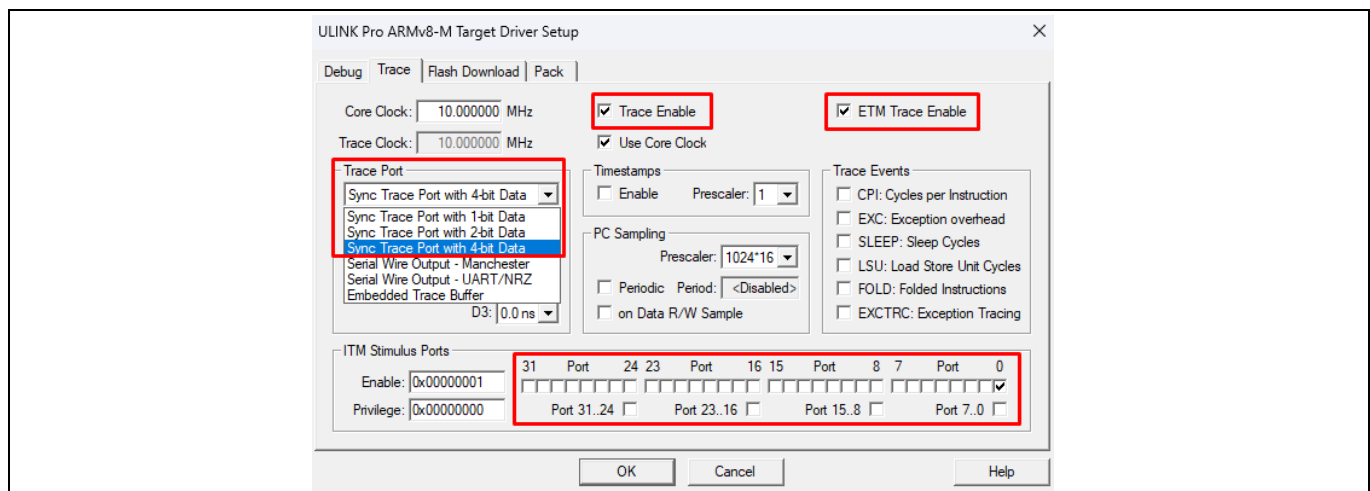

Figure 10 Configurations in Debug > Trace tab
5. Select the **Trace** tab and configure the settings to match Figure 10.